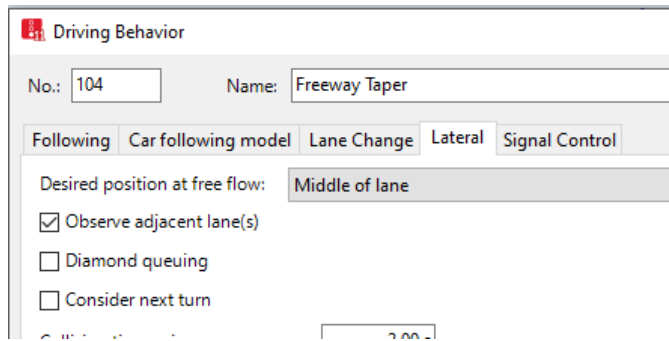

Figure 46: Updated Lateral in freeway taper Driving Behavior
- step ix. Go to the *Lateral* tab. Select *Observe adjacent lane(s)*, *Figure 46*.